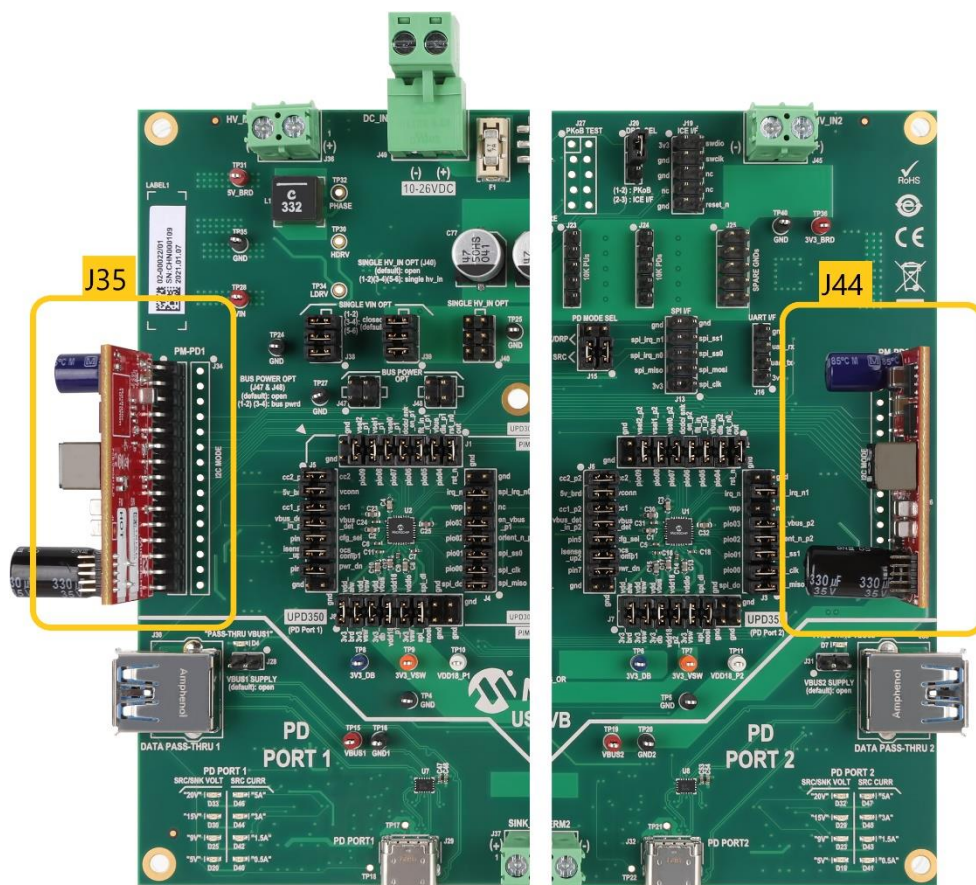

Figure 5.1 PM-PD Installation
1. Connect PM-PD modules to J35 and J44 of the EVB-PSF in correct orientation as shown in Figure 5.1